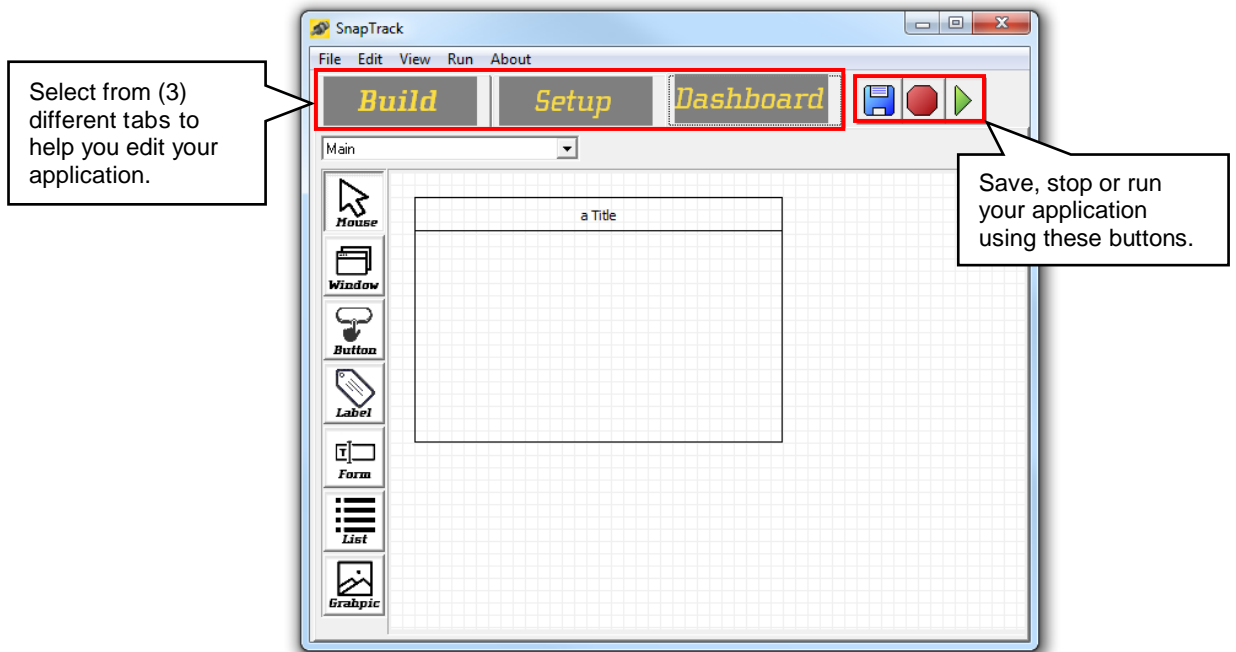

Figure 1.1 Opening window.
*Selectable Tabs* On opening SnapTrack, the window in *Figure 1.1* appears. Near the top, there are (3) primary **tabs** available for creating a motion application: *Build*, *Setup*, and *Dashboard*. Each tabs contains different tools to create and edit a program.
The *Dashboard* tab is open by default when launching SnapTrack (shown in *Figure 1.1 and 1.2*). This tab provides the starting point in creating programs. The graphed area provides a workspace to create the program's interface using tools, such as buttons, labels, and more.